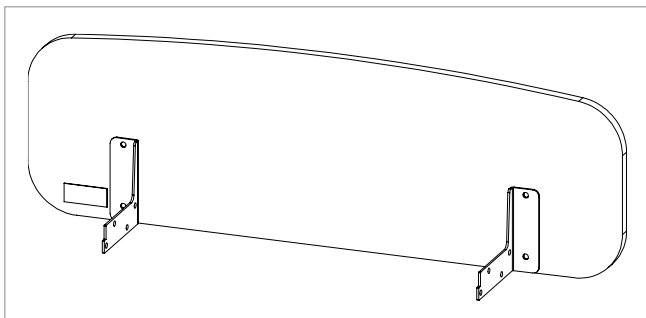

Figure 8.4
9. Position the brackets on the footboard as Figure 8.4 – note the orientation of the brackets.